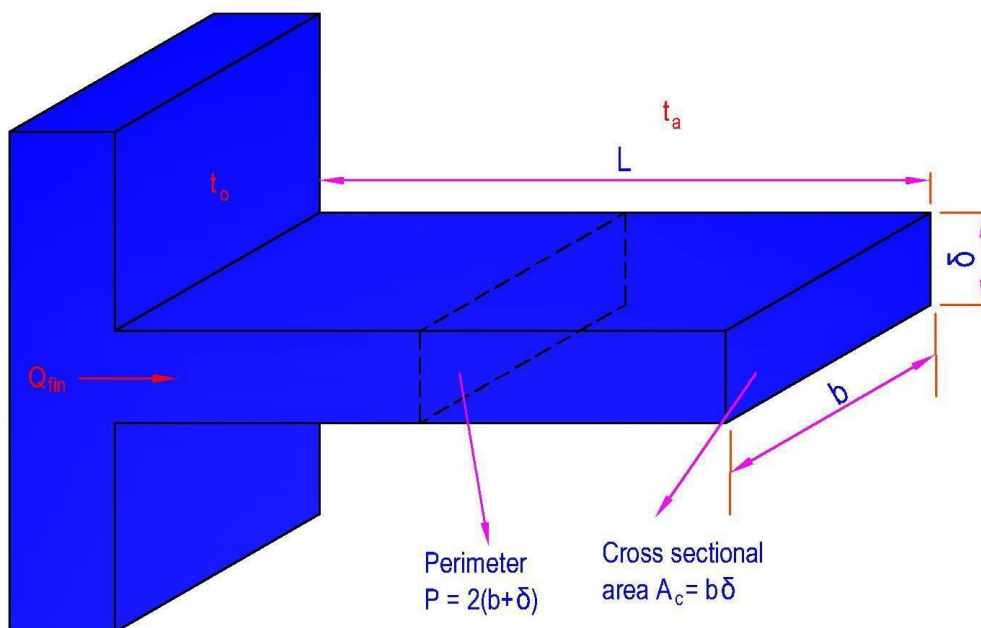
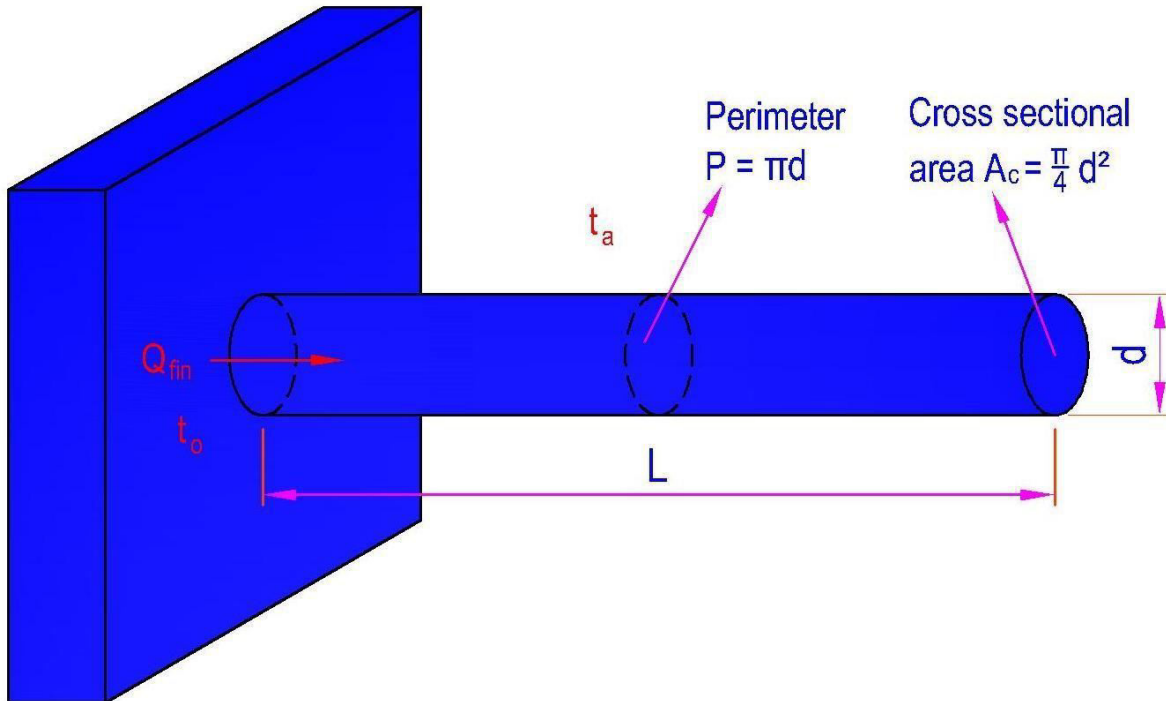

Fig. 3.1a Schematic diagram of a rectangular fin protruding from a wall
Fig. 3.1b Schematic diagram of a pin fin protruding from a wall
- Consider a straight rectangular or pin fin protruding from a wall surface (figure 3.1a and figure 3.1b).